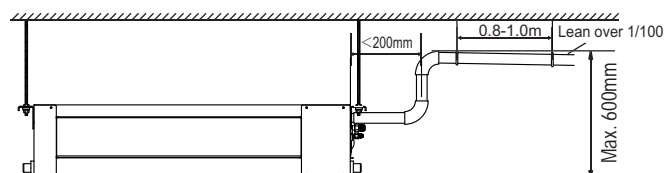

Fig.8-2
- In case the drainpipe outlet is higher than pumping connective pipe of the main body, the drainpipe must be arranged upwards vertically by using connective assembly of the water outlet for vertical bending, and the height of the drainpipe shall set to the defrosting pan surface no more than 600mm, otherwise, too much backflow while shutdown would leads to overflow (Refer to Fig.8-2).(Only available for the unit with pump.)